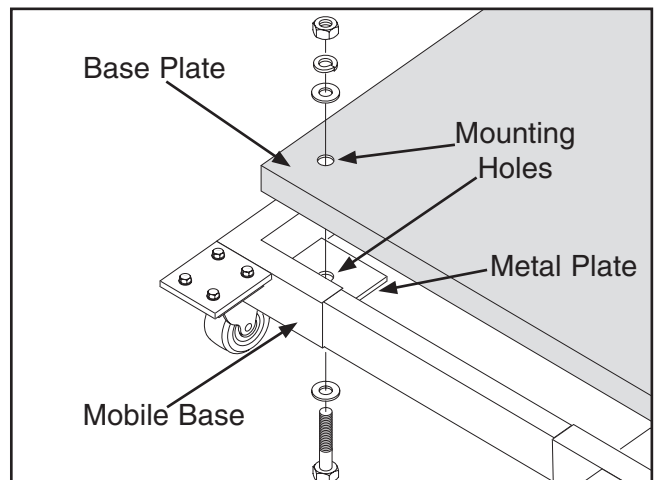

Figure 22. Mounting base plate to mobile base.
6. Secure the base plate to the mobile base with 2¼" long hex bolts, hex nuts, flat washers and lock washers, as shown in **Figure 22**.